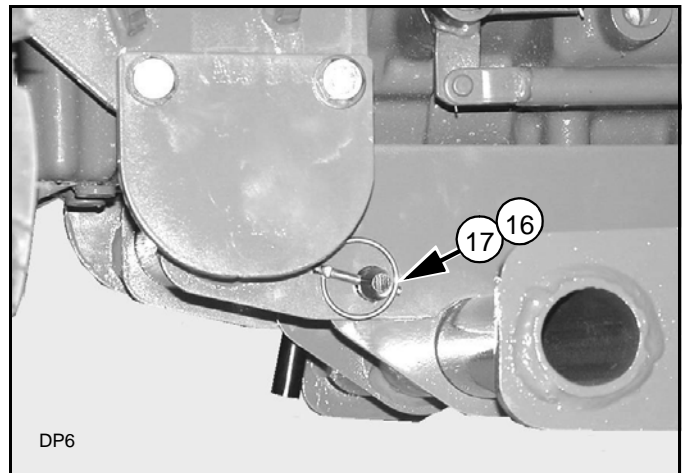
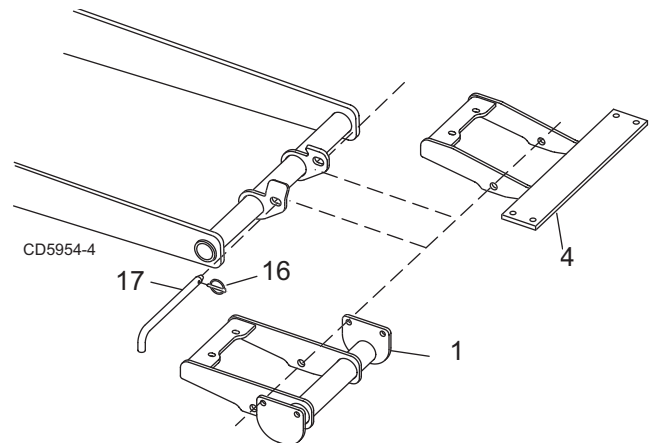

Figure 11 Lock Pin Installed
Figure 12 Bent Pin Installation
2. Align holes and install lock pin (17) and klik pin (16) as shown in Figure 11 & Figure 12.